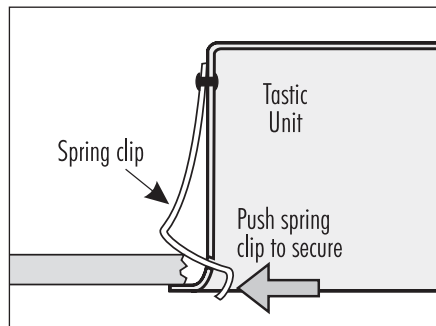

Fig. 12
7. To secure the unit in position, push lower ends of springs apart (Fig 12.). Ceiling board thickness should be adjusted to enable springs to be fitted without excessive force.
3. To secure the unit in position, push lower ends of springs apart (Fig 12.). Ceiling board thickness should be adjusted to enable springs to be fitted without excessive force.